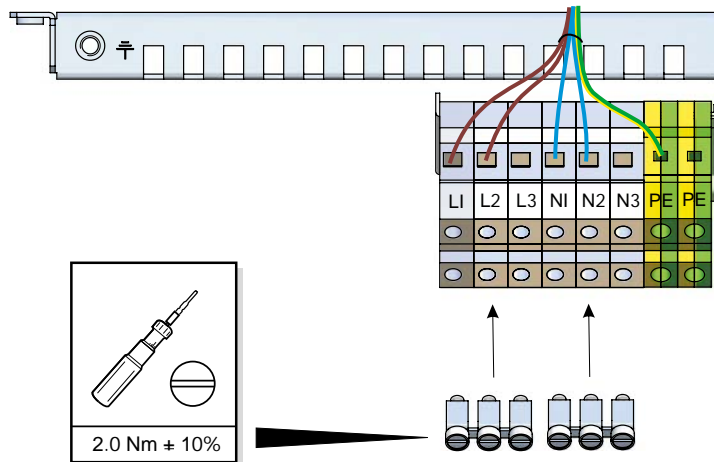

Figure 4-9 AC Input Terminal Block (1-phase)
- 1-phase 110VAC or 230VAC (Figure 4-9)